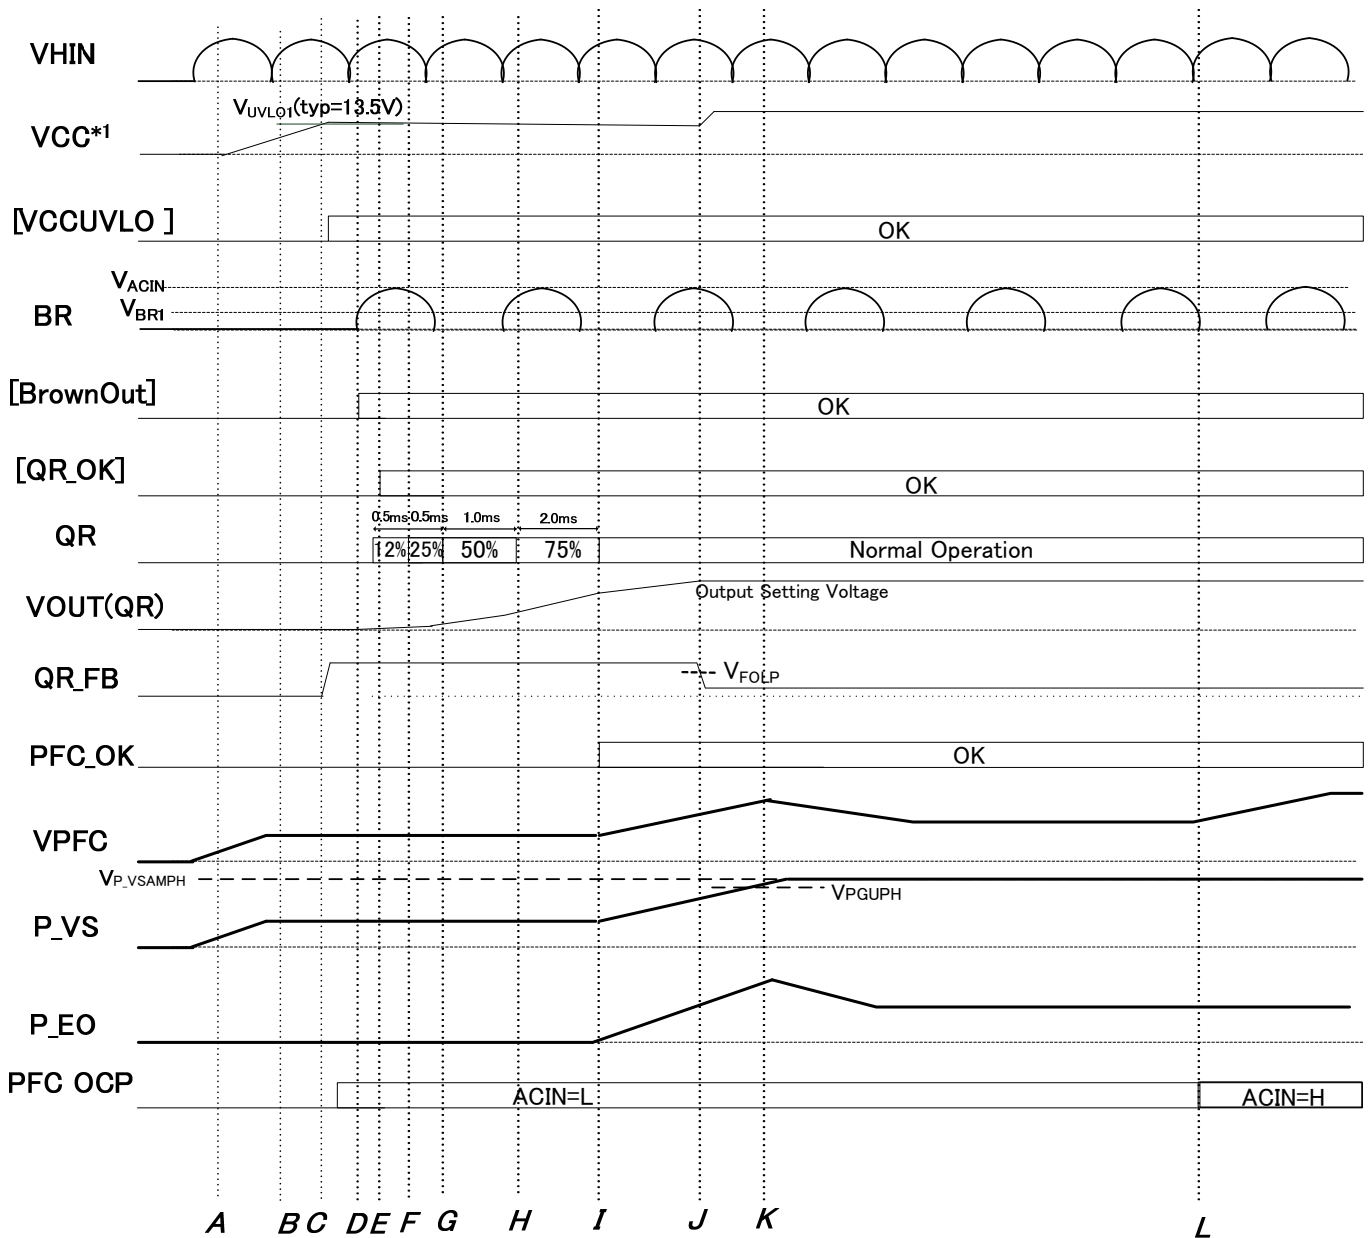

Figure 6. Start-up Sequence Timing Chart
When the VCCUVLO is released and the brown out function is released, then IC starts. At starting, QR starts to operate in soft start first. After the soft start finishes, PFC starts to operate. After QR output is stable, in the case of POFFSET voltage > CS detect voltage PFC stops. The PFC off time is set at P_TIMER pin. In the case of POFFSET voltage < CS detect voltage for more than 4ms, PFC switches from OFF to ON. The waveform of start-up is shown in Figure 6.
•Operation explanation of Figure 6.
The IC PFC OCP detect voltage is switched from -0.6V to -0.4V because ACIN=H is detected in Figure 6.